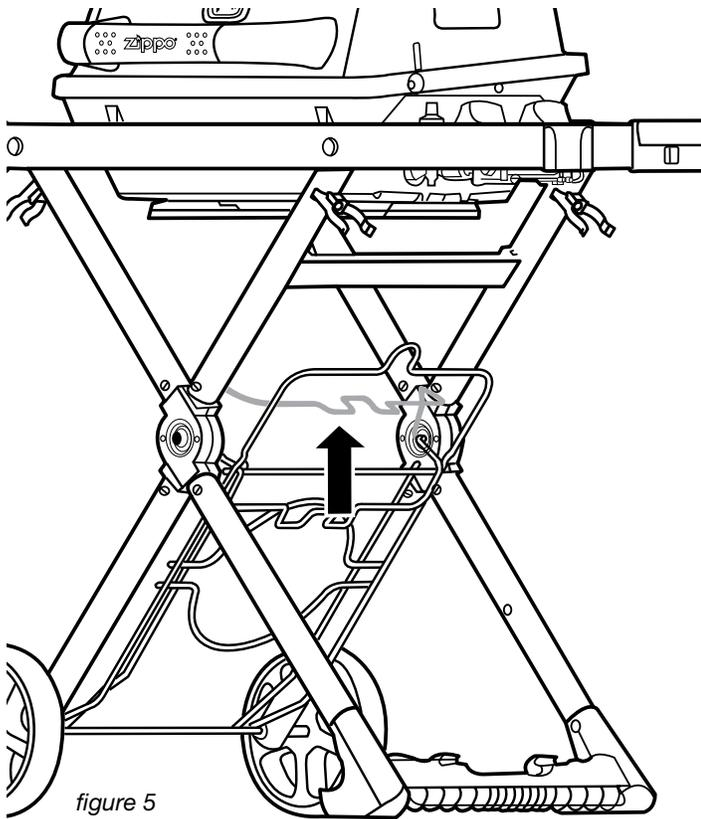

figure 5
Lift ③③ Tank Retainer to release ③② Tank Support Bracket as shown in figure 5.